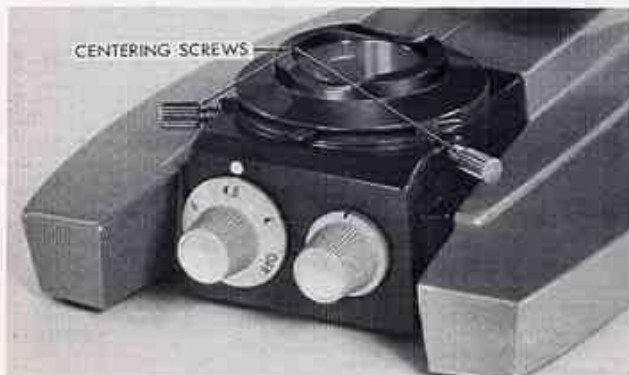

Figure 32. Cat. No. 1031 Illuminator
Initial centration of the In-Base Illuminator is most important. This is accomplished by visually aligning the mount and housing of the illuminator as shown in figure 32. Using the two centering screws, adjust the position of the mount until it is concentric
9. Using the two centering screws simultaneously (figure 32) center the image of the field diaphragm to the periphery of the field of view. After centering, open the field diaphragm until the iris leaves "just" disappear from the field of view.